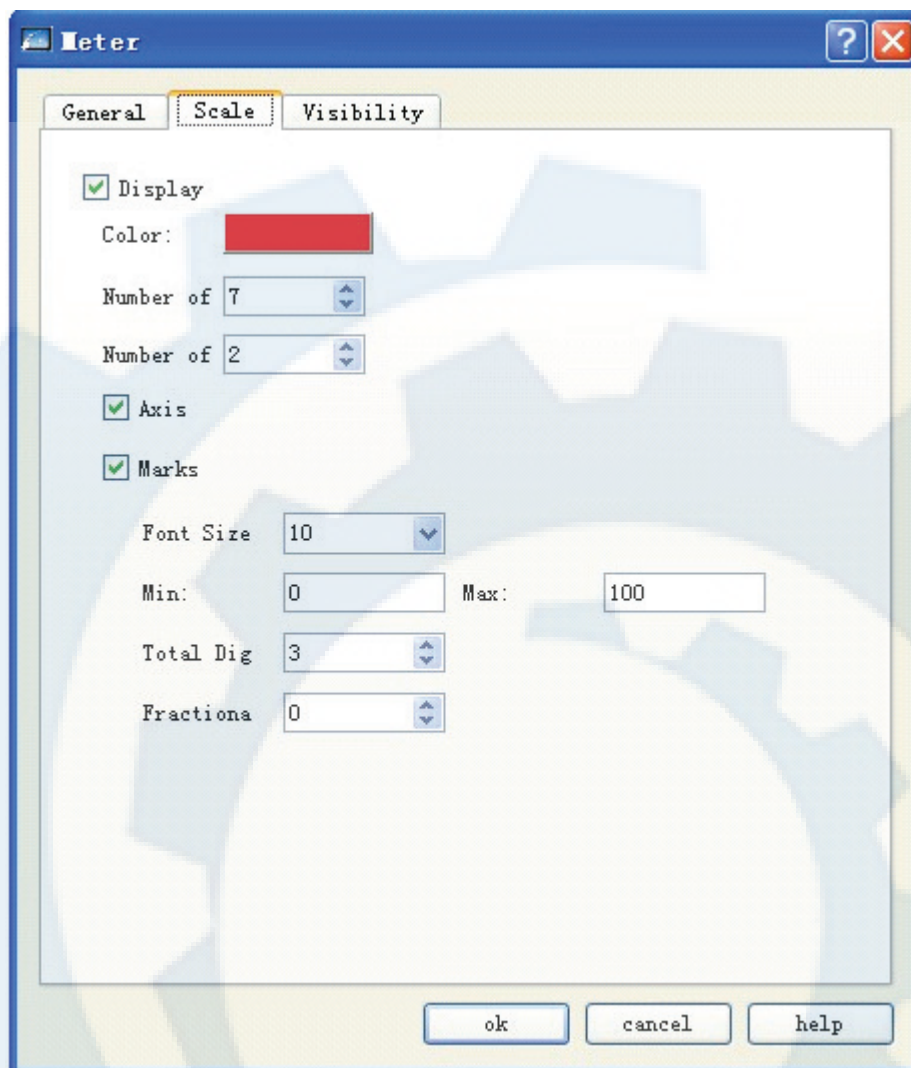

Figure 4-68: Scale tab of meter
2. Click the Scale tab to set scale properties. See Figure 4-68.